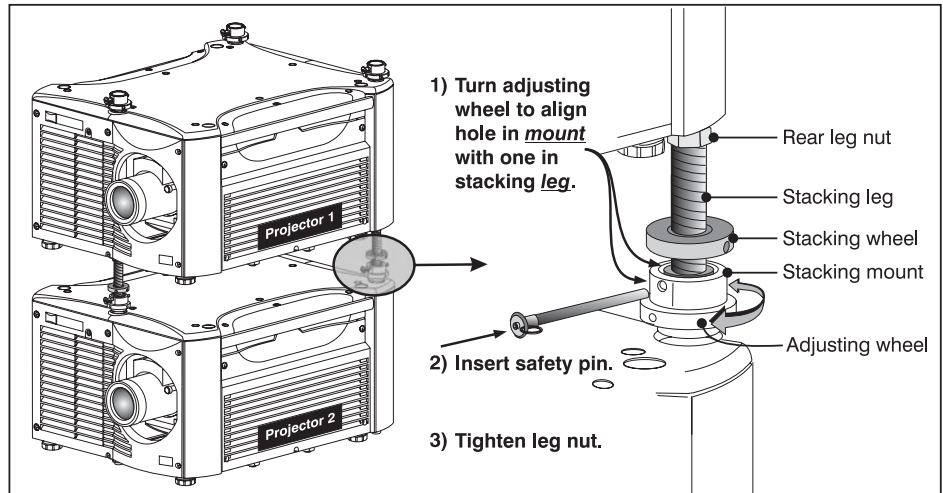

Figure 2.14. Align Holes in Mounts and Legs, and LOCK with Pin
On each stacking mount, turn the adjusting wheel slightly until the hole in the top portion of the mount lines up with the hole in the stacking leg (Figure 2.14).
At each of the (3) stacking points, insert the safety pin fully through the holes in the stacking mounts and stacking legs (Figure 2.14). Ensure that each pin is *fully inserted* to engage the safety lock and secure the projectors together. Failure to engage the safety lock could cause the projectors to separate and result in injury or death.
Before hoisting, firmly tighten the nuts on the (2) rear stacking legs (Figure 2.14). Or, if you are ready to align the projectors to one another, leave these nuts slightly loose until after the alignment.